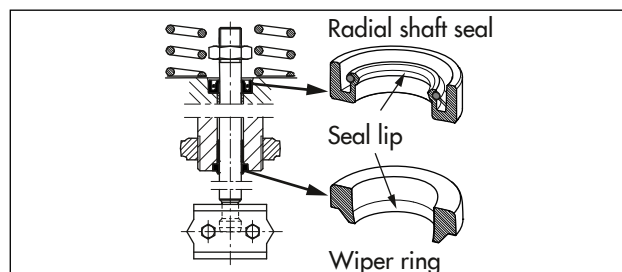

Fig. 27: Aligning the radial shaft seal and wiper ring
6. Use a suitable tool to mount the radial shaft seal. Observe the correct alignment of the radial shaft seal (see Fig. 27).